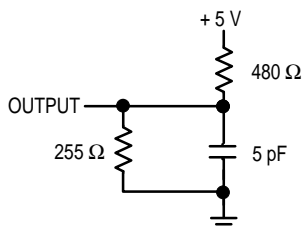

Figure 1B
6. Transition is measured ± 500 mV from steady-state voltage with load of Figure 1B.
7. Transition is measured ± 500 mV from steady-state voltage with load of Figure 1B.